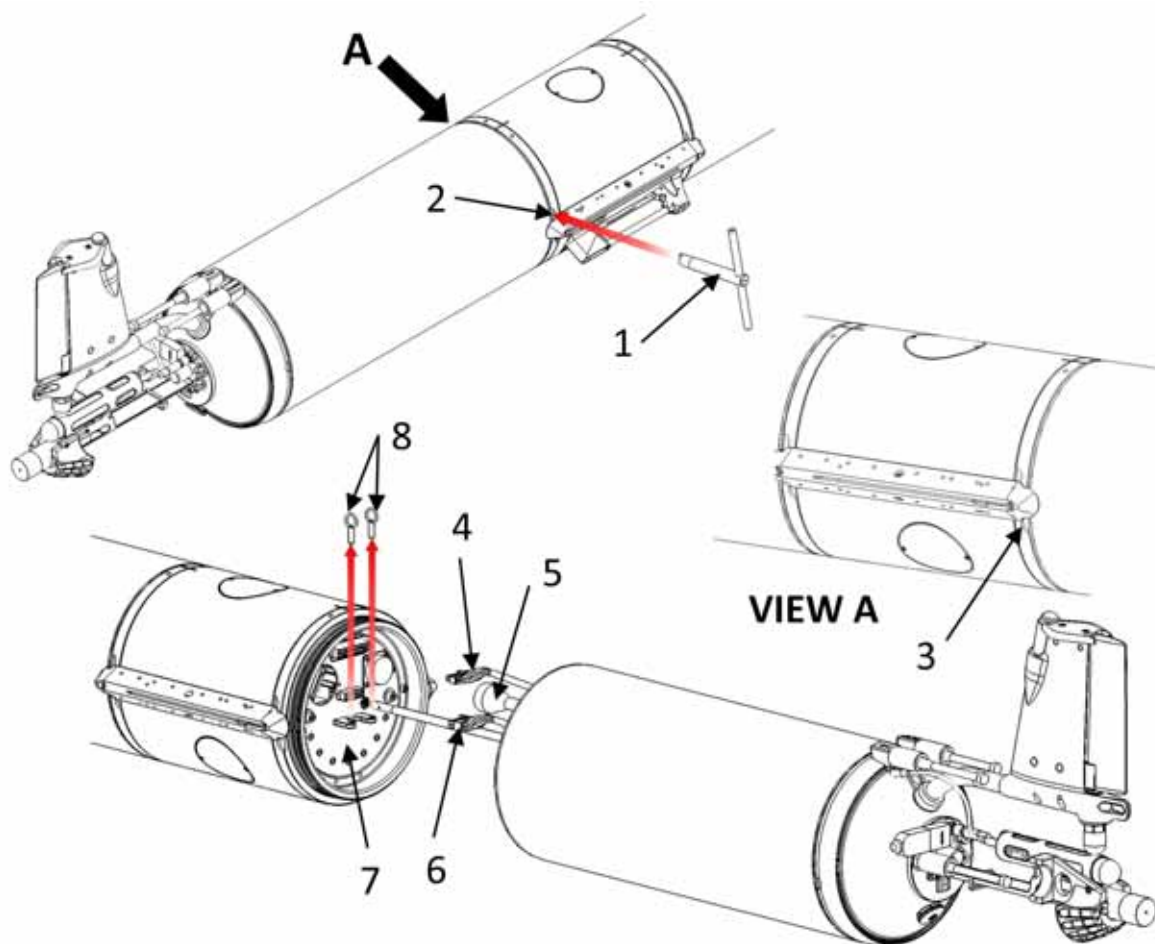

Figure 2-21 Aft assembly
1. Separate the aft hull section from the payload bay using the hull separation tool (Figure 2-21, Item 1) at the location indicated in the figure in View A (Figure 2-21, Item 3).
2. Remove all connections (Figure 2-21, Items 4-6) from the payload bay to the aft assembly.
3. If the glider uses lithium batteries, free the aft battery pack from the payload bay by pulling the two pins (Figure 2-21, Item 8) from the battery bracket (Figure 2-21, Item 7).
2. If the glider uses lithium batteries, secure the aft battery pack to the battery bracket (Figure 2-21, Item 7) on the payload bay with the two pull pins (Figure 2-21, Item 8).
3. Make all connections (Figure 2-21, Items 4-6) from the payload bay to the aft assembly.